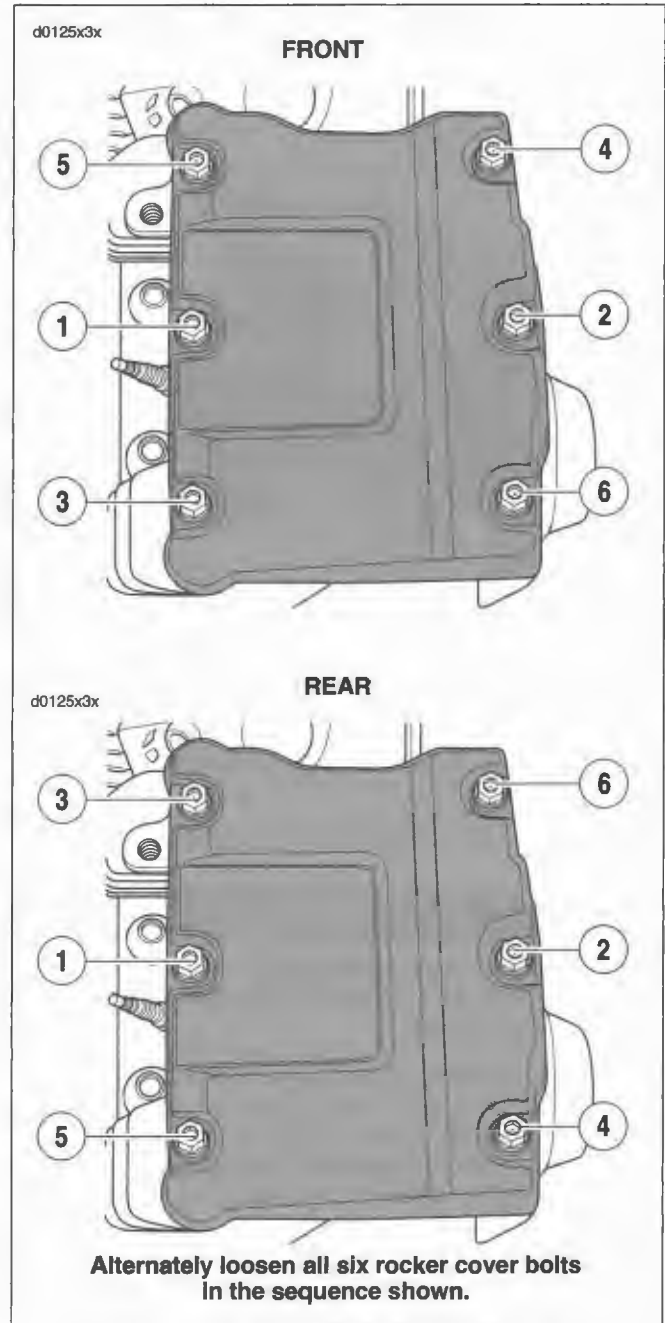

Figure 3-17. Rocker Cover Bolt Removal
2. See Figure 3-17. Following the sequence shown, alternately loosen the six rocker cover bolts. Remove the rocker cover bolts and their captive washers.